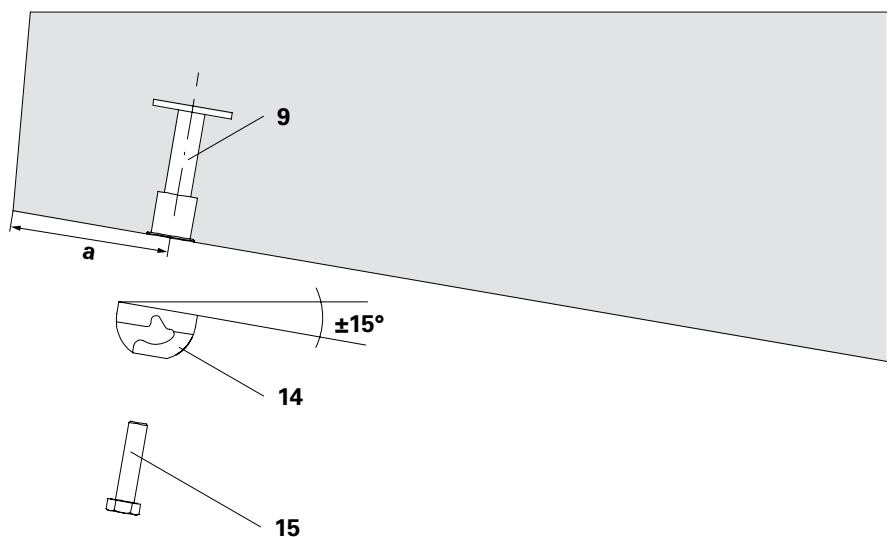

Fig. A4.02
1. Attach Suspension Head M24 VARIOKIT (14) to the Anchor Sleeve M24 by means of Bolts M24 x 150 (15). (Fig. A4.02)